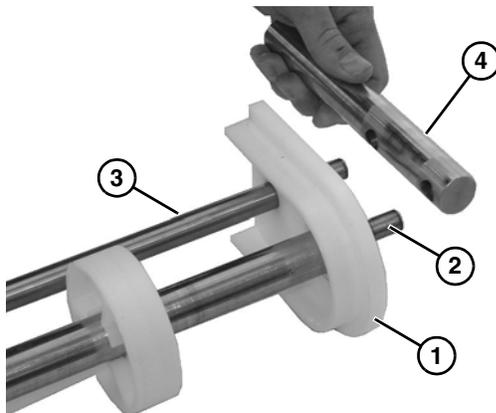

Figure 66
- Install the pinch guard (Figure 66, item 1) to each side onto idler shaft (Figure 66, item 2) and pinch guard shaft (Figure 66, item 3).
- Install the bearing end rod (Figure 66, item 4) onto idler shaft (Figure 66, item 2) and rod (Figure 66, item 3).